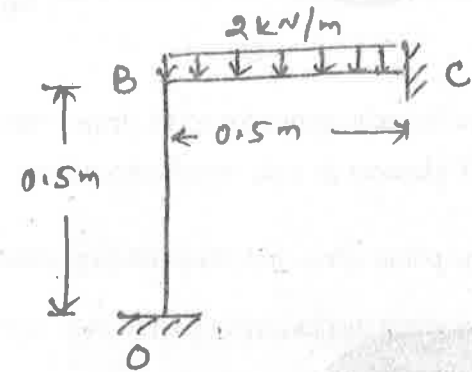

Fig. 4
A frame shown in fig. 4 is composed of identical beams having 25 mm square cross-section and a modulus elasticity (E) = 70 GPa. The supports at O and C are to be considered completely fixed. The horizontal beam is subjected to a uniform load of intensity 2 kN/m. Determine the displacements and rotation at B. 14